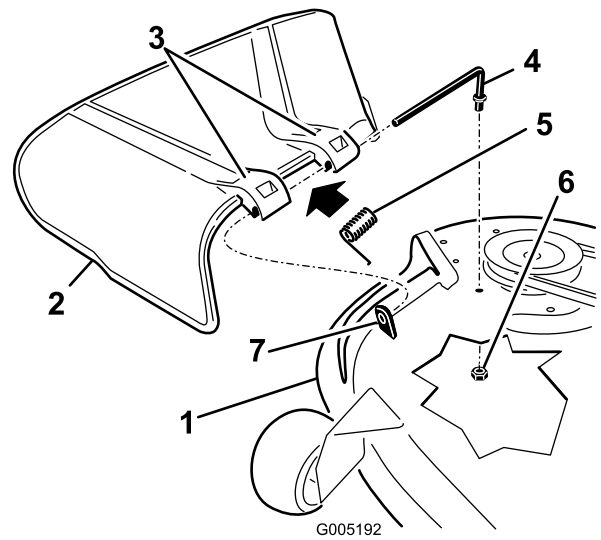

Figure 75
- Slide the rod out of the short stand-off, spring, and grass deflector (Figure 75).
- Replace the grass deflector (Figure 75).
- Slide the rod through the second grass-deflector bracket (Figure 75).
- Secure the rear end of the rod into the mower with a nut (3/8 inch) as shown in Figure 75.
- Remove the nut (3/8 inch) from the rod under the mower (Figure 75).